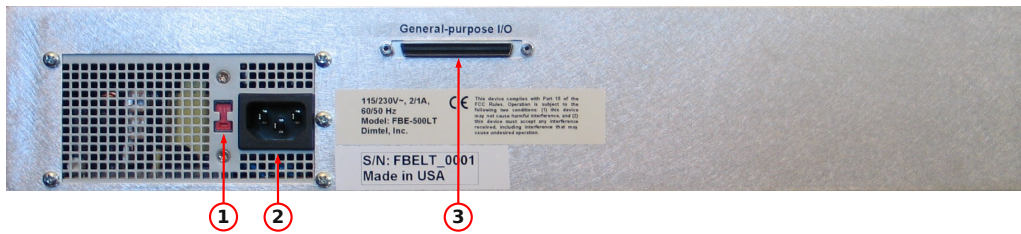

Figure 3: Rear panel features
WARNING: Before connecting power to the unit make sure the voltage selection switch (Fig. 3, item 1) is in the correct position (115 or 230 V).
1. Configure voltage selection switch (Fig. 3, item 1). Mains supply requirements for the FBE-505LT are listed in Table 4;
9. Using the supplied 68-pin GPIO cable connect the iGp/iGp12 interface (Fig. 3, item 3) to the GPIO connector on the iGp/iGp12;